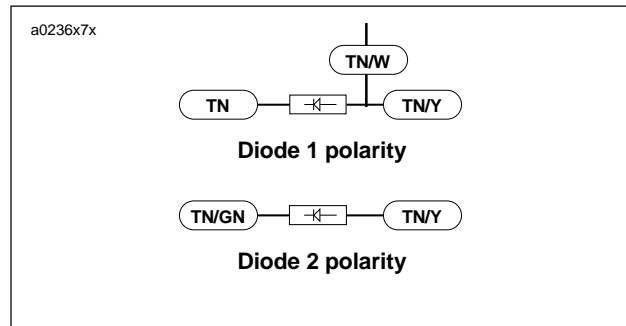

Figure 7-40. Diode Polarity
2. Check diode polarity as shown in Figure 7-40.